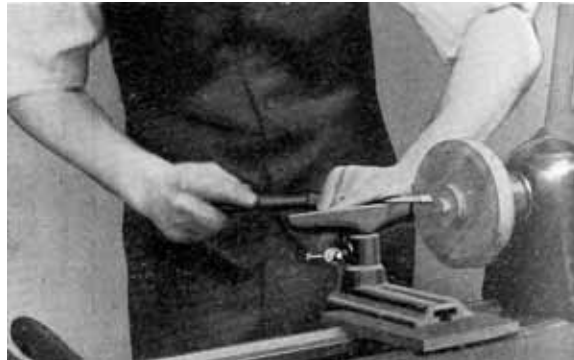

Fig. 19.
2. For the finishing cut a small skew chisel is used, and the process is the same as that used in squaring ends of stock. Both the vertical and horizontal shoulders can be handled easily by this method. Fig. 19.